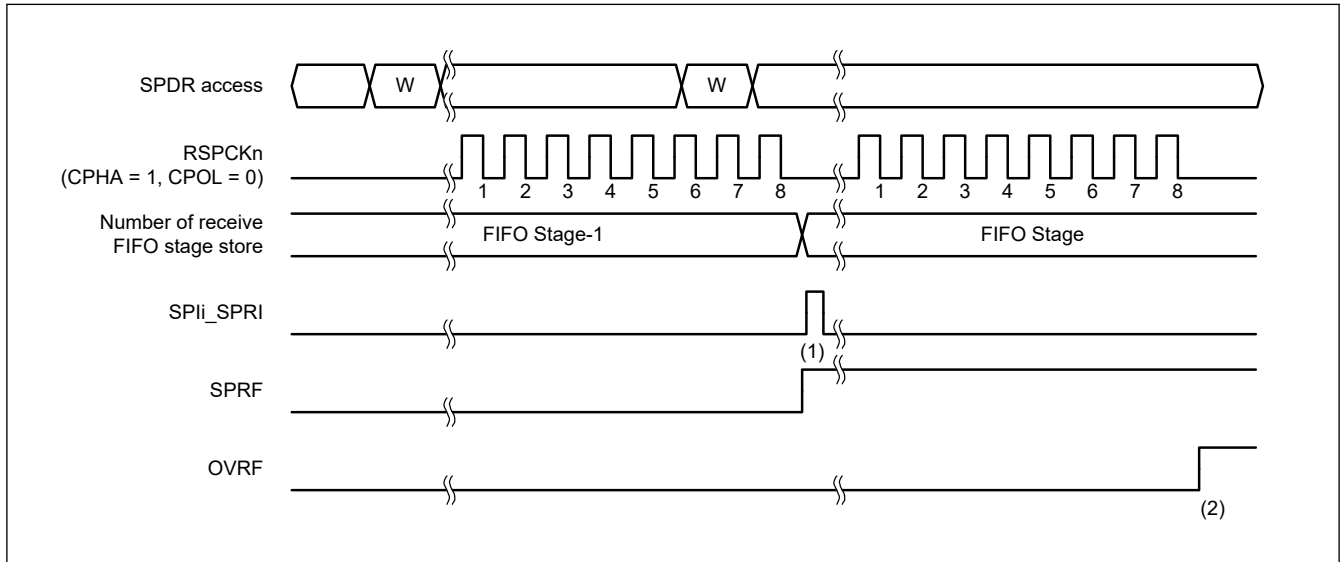
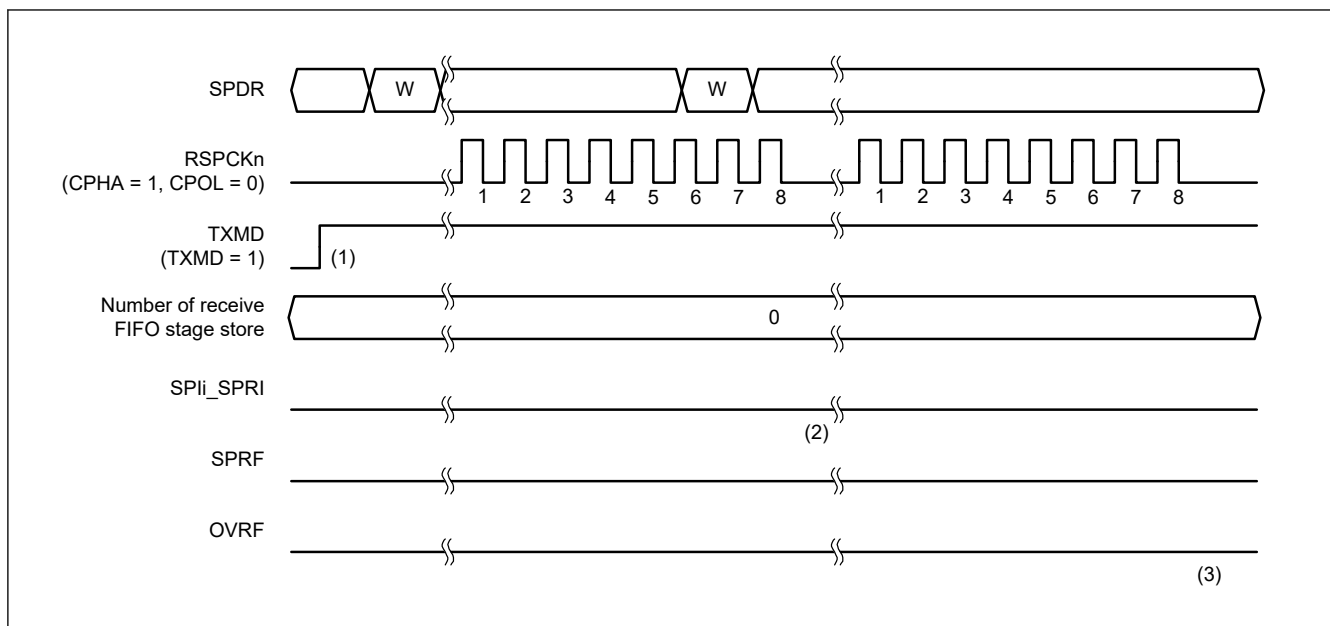
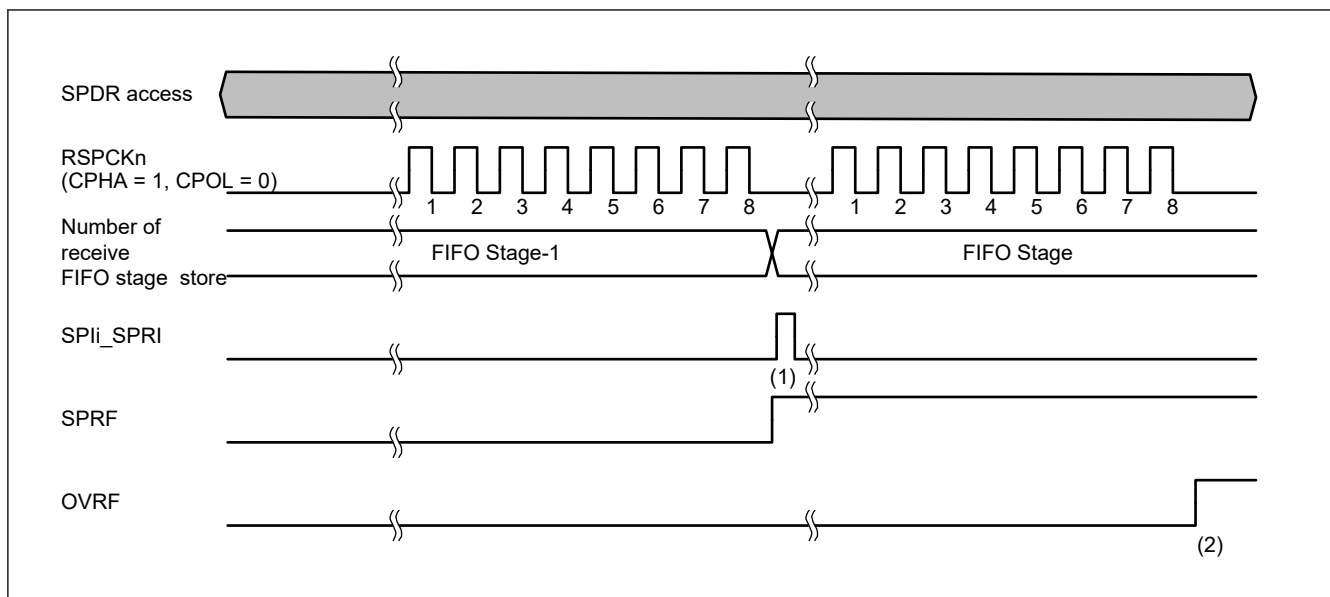

Figure 44.30 Operation example when SPCR.TXMD[1:0] = 00b
Figure 44.31 Operation example when SPCR.TXMD[1:0] = 01b
Figure 44.32 Example of Operation when SPCR.TXMD[1:0] = 10b
SPDR access described in Figure 44.30, Figure 44.31, Figure 44.32 shows an access to the SPI data register (SPDR). W shows a write cycle.
Figure 44.30 shows an example of operation when the communication mode select bit (TXMD[1:0]) in the SPI control register (SPCR) is set to 00b. In the example, the SPI performs an 8-bit serial transfer when the SPDCR2.TTRG is 0, the SPDCR2.RTRG is FIFO stage - 1, the SPCMDm.CPHA bit is 1, and the SPCMDm.CPOL bit is 0. The numbers given for RSPCKn in the waveform represent the number of RSPCK cycles, such as the number of transferred bits.
The operation of the flags at timings (1) and (2) in Figure 44.30 is as follows:
Figure 44.31 shows an example of operation when the communication mode select bit (TXMD[1:0]) in the SPI control register (SPCR) is set to 01b. In this example, the SPI performs an 8-bit serial transfer when the SPDCR2.TTRG is 0, the SPDCR2.RTRG is 0, the SPCMDm.CPHA bit is 1, and the SPCMDm.CPOL bit is 0. The numbers given for RSPCKn in the waveform represent the number of RSPCK cycles, such as the number of transferred bits.
The operation of the flags at timings (1) to (3) in Figure 44.31 is as follows:
Figure 44.32 shows an example of operation when the communication mode select bit (TXMD[1]) in the SPI control register (SPCR) is set to 1. In this example, the SPI performs an 8-bit serial transfer when the SPDCR2.TTRG is FIFO stage - 1, the SPDCR2.RTRG is 0, the SPCMDm.CPHA bit is 1, and the SPCMDm.CPOL bit is 0. The numbers given for RSPCKn in the waveform represent the number of RSPCK cycles, such as the number of transferred bits.